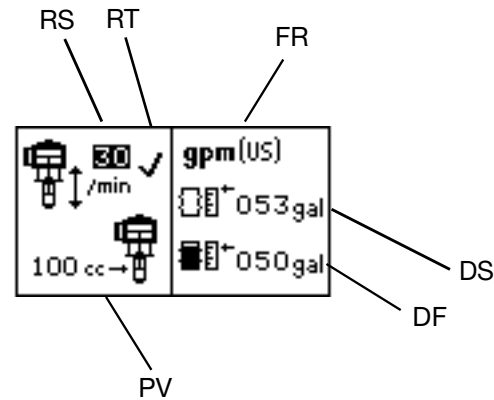

FIG. 32: Setup Screen 1
Use Setup screen 1 to set runaway cycle rate (RS), enable/disable runaway protection (RT), select pump volume per cycle (PV), select flow rate units (FR), enter drum size (DS), and enter drum fill volume (DF). See FIG. 32.
NOTE: When runaway protection is enabled (RT), a ✓ will appear on the setup screen. See FIG. 32.
NOTE: To disable runaway monitoring, go to setup mode and set runaway value to 0 (zero) or toggle (RT) off. See FIG. 32.